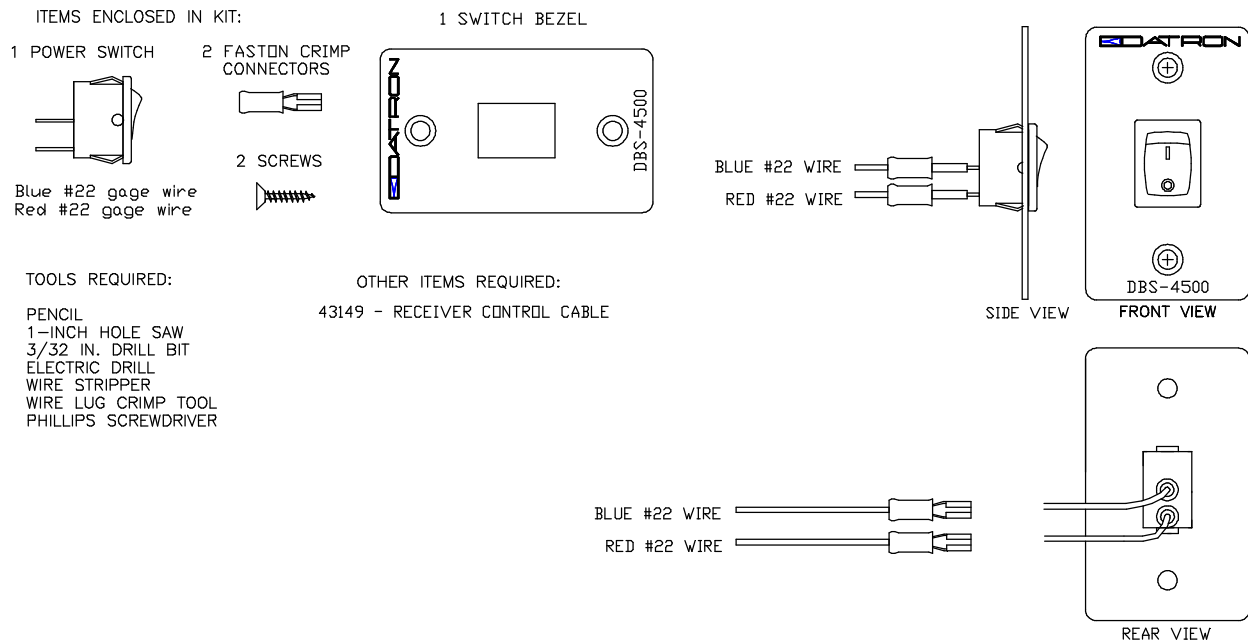

Figure 4-12
- Step 5** Snap the switch into the bezel from the front side as shown in “front view” of Figure 4-12. Note that the vertical white line on the rocker switch should be located towards the top of the switch plate. Then push the faston connectors onto the switch terminals as shown in diagram “side view.”